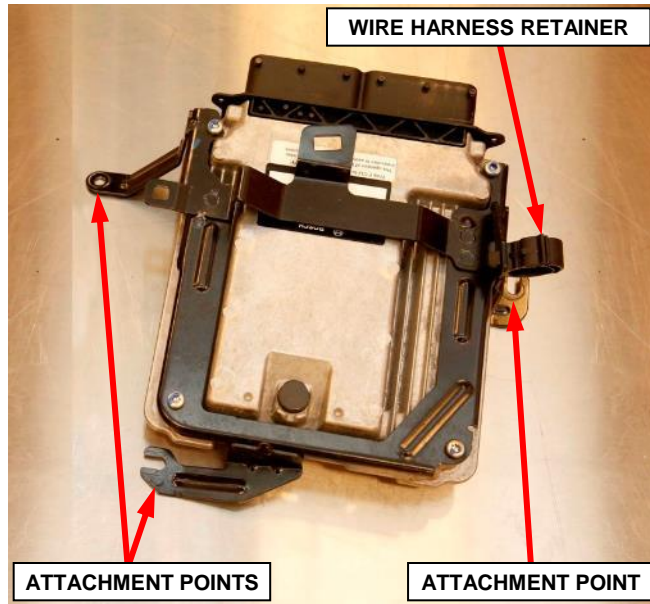

Figure 21 – Secondary PCM
45. Loosen the two remaining attachment nuts securing the secondary PCM bracket to the cowl (Figure 21).
46. Remove the secondary PCM from the vehicle (Figure 21).
6. Install the secondary PCM to the vehicle (Figure 21).